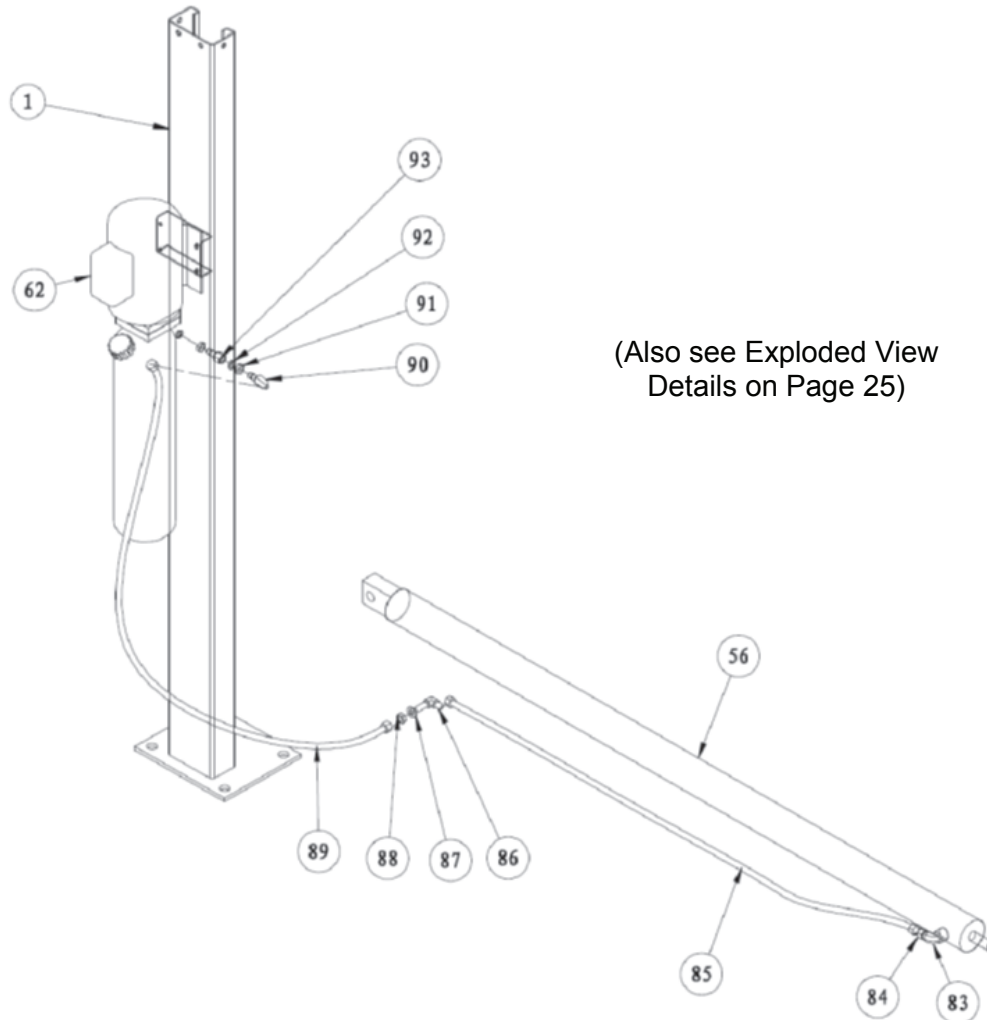

Fig. 10
22. Install the 90 degree Hydraulic Fitting, Nuts & Washer (# 90, 91, 92 & 93) to the high pressure port on the Power Unit, shown in Figure 10. Connect the 110VAC electrical power to the Power Unit.
23. Install the “wire braided” Hydraulic Hose (#89) to the Fitting on the side of the Main side Runway and attach the other end to the 90 degree Fitting on the Power Unit, as shown in Fig.10.